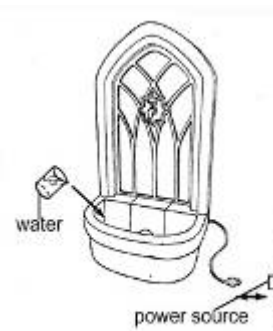

Fig.4
6. Add clean water into the basin. The water level should be approx. 30mm below the top edge of the basin. (Fig 4)
7. Connect the pump power cord to a GFCI outlet. Turn on the spigot on the panel of top fountain and the product will begin to function as intended. (Fig 4)